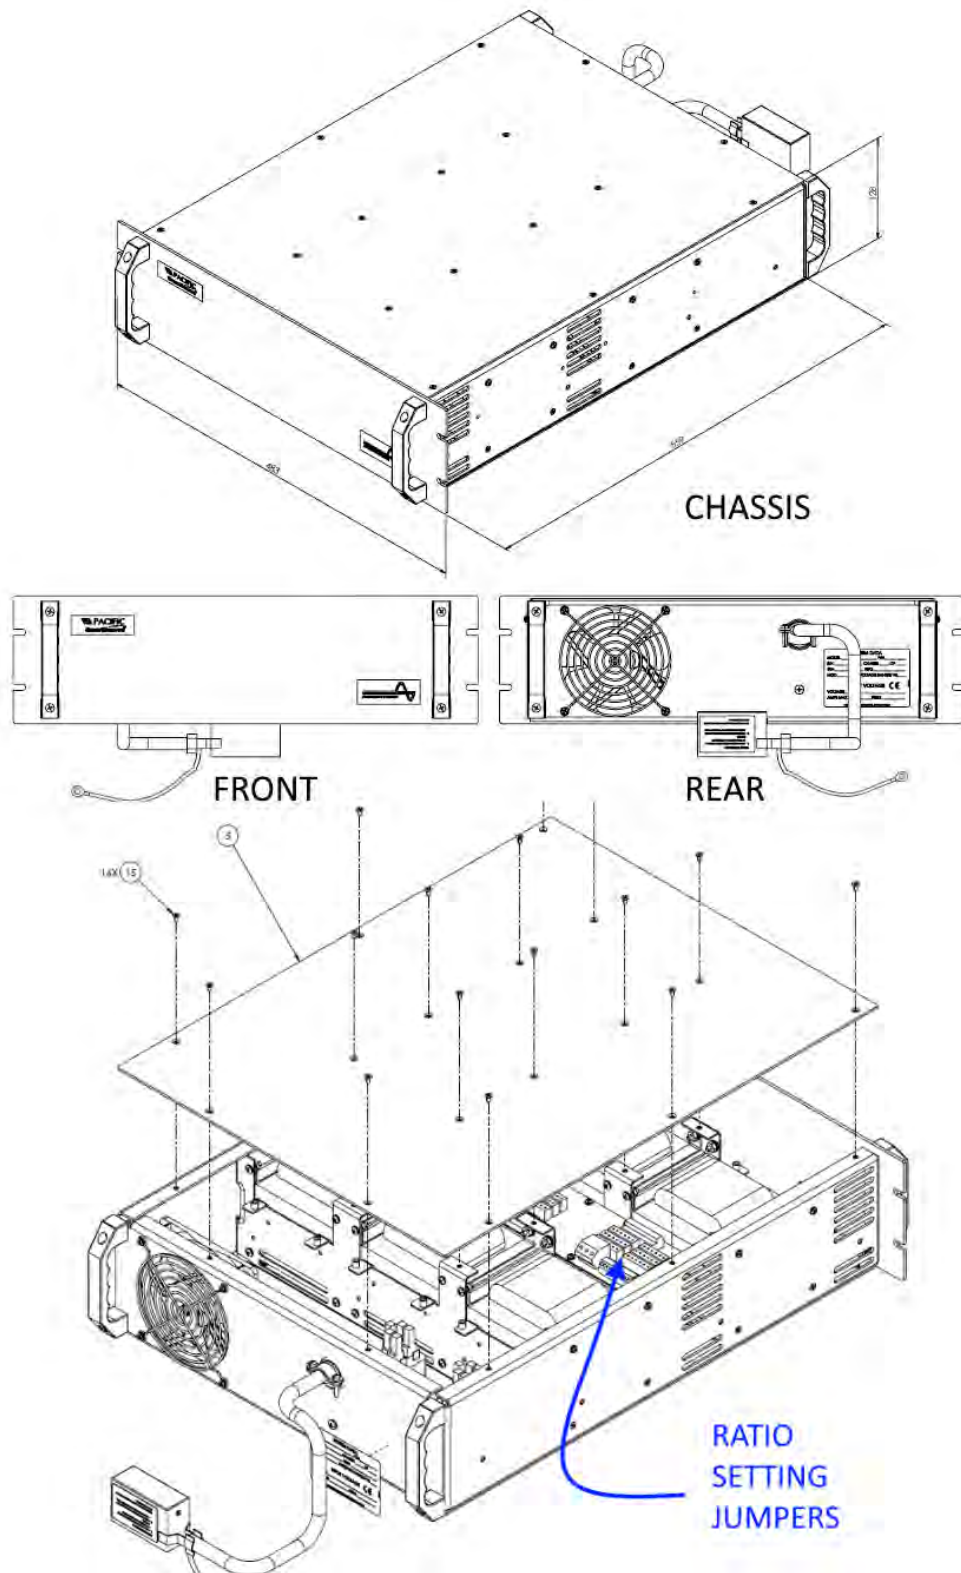
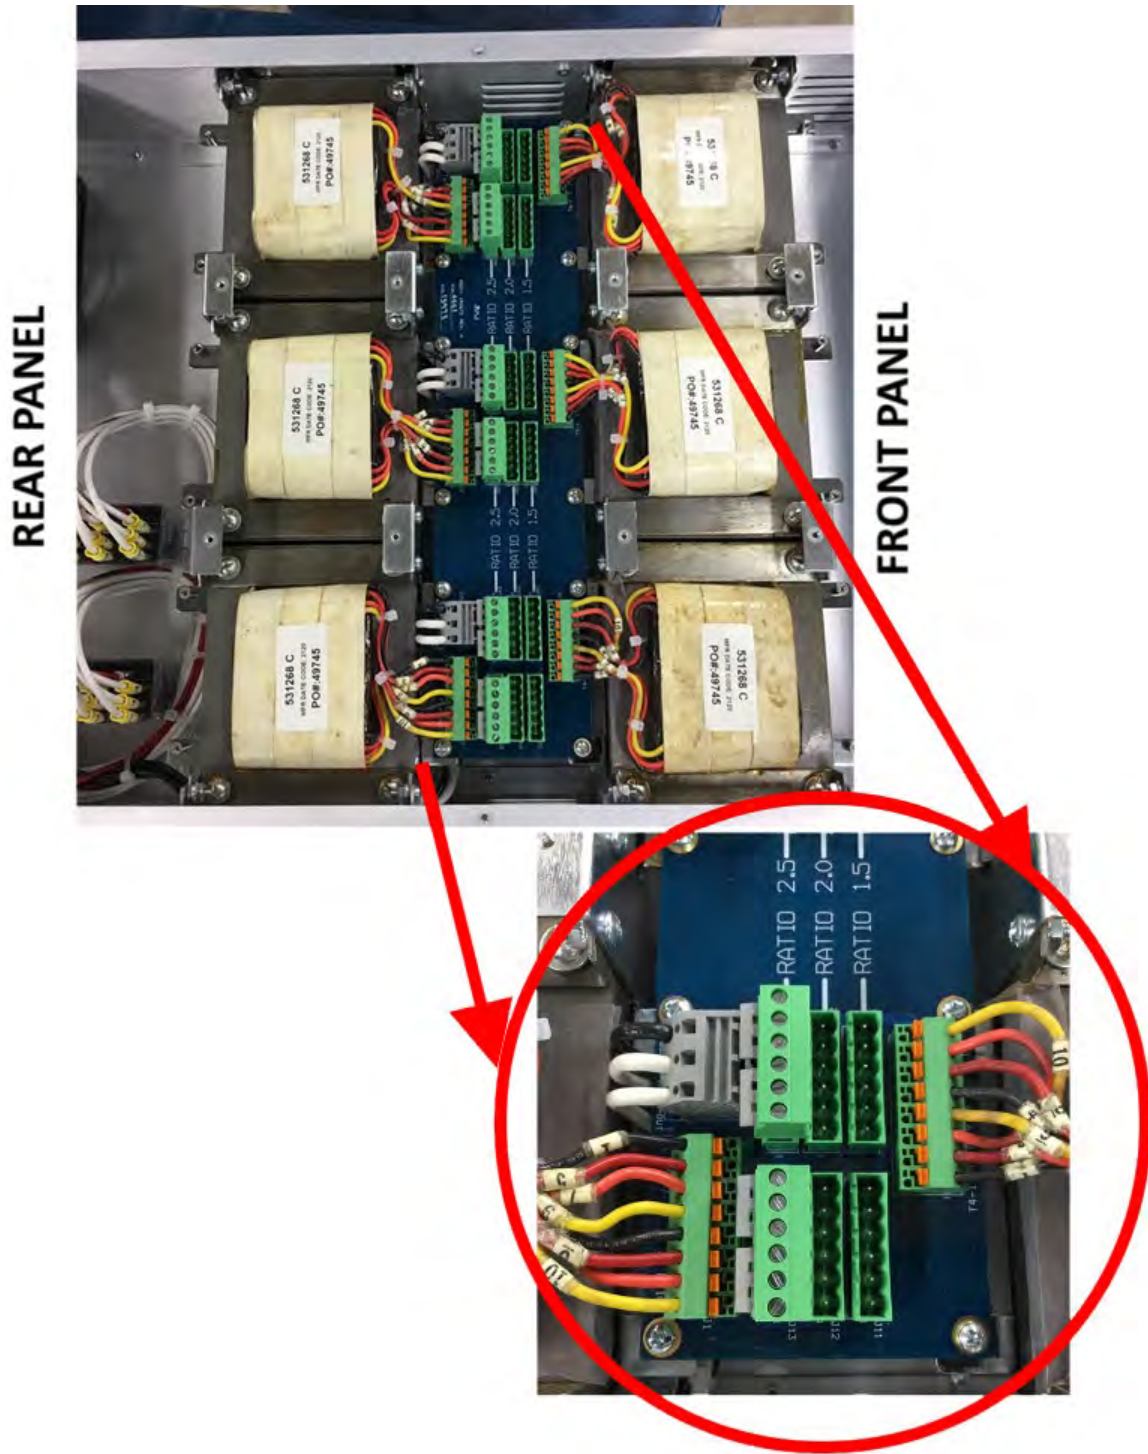

Figure 5-10: External Output Transformer Module Chassis Drawing
Figure 5-11: External Output Transformer Module Configuration Jumpers
For all 5U and 8U rack height LMX models, the magnetics module consists of a separate 3U rack mount chassis that contains the transformers and connects to the power source. The Magnetics Module (Assembly No. 134780) is required for the VR1.5, VR2.0, and VR2.5 output forms. Refer to Figure 5-10 on page 84.
3. Move all jumpers to the desired transformer ratio position. All jumpers must be in the same row. The ratio is shown on the circuit board. Refer to Figure 5-11 on page 85.
The wiring requirements for high range (0-270, 0-300Vac) 220 Vac, one-phase, or split phase direct-coupled loads are shown in Figure 5-10 and Figure 5-11. Split Phase or two-phase operation is defined to be two voltage vectors ( $V_a$  and  $V_b$ ) which are equal in magnitude and separated by  $180^\circ$ .
Some loads require three connections ( $V_a$ -N- $V_b$  or L1-N-L2). This type of load is commonly referred to as "Split Phase". In this case, the "N" terminal of the output terminal block is used in addition to the wiring described above. Refer to Figure 5-10 and Figure 5-11 for connection details.